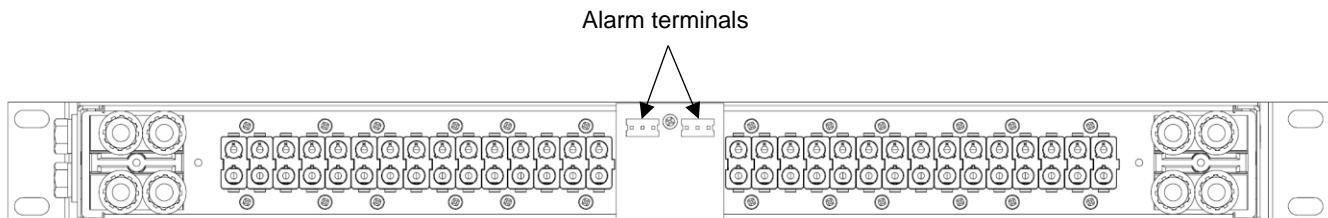

Fig. 2-8: 125GMT15-C Alarm Terminals
26. The alarm terminals are located in the rear center of the panel. Refer to Fig. 2-8.